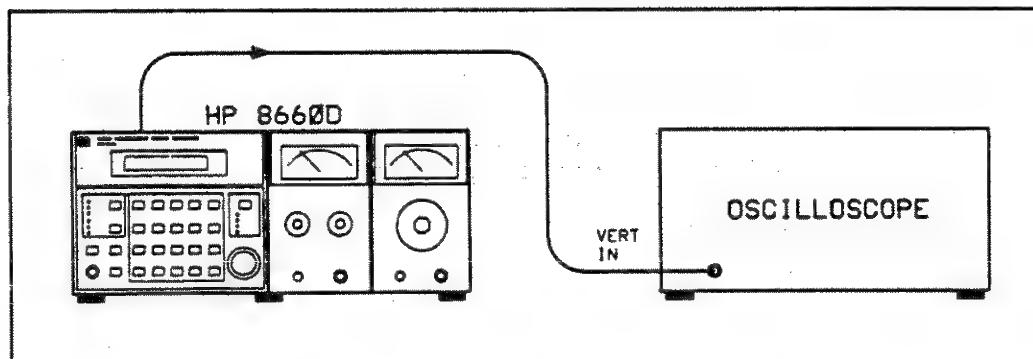

Figure 5-8. Oscilloscope Level Checks Test Setup
a. Check the outputs listed in Table 5-8 for the levels shown (see Figure 5-8).